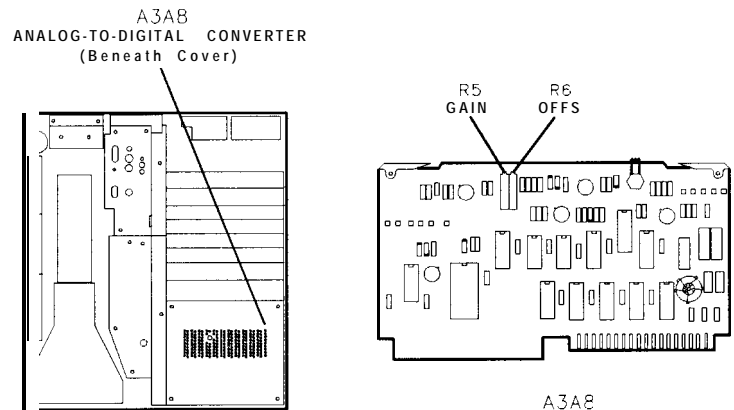

Figure 3-86.
- f. Adjust A3A8R6 OFFS for a square wave displayed on the oscilloscope. The square wave should be approximately 4 V_{P-P} . See Figure 3-86 for location of adjustment.
1. Adjust A3A8R5 GAIN for a square wave displayed on the oscilloscope. The square wave should be approximately $4 V_{p-p}$. See Figure 3-86 for location of adjustment.
- f. Adjust A3A8R6 OFFS until the level at A3A8TP11 is at a maximum ac voltage as indicated by the DVM (approximately 2.0 V ac). See Figure 3-86 for location of adjustment.